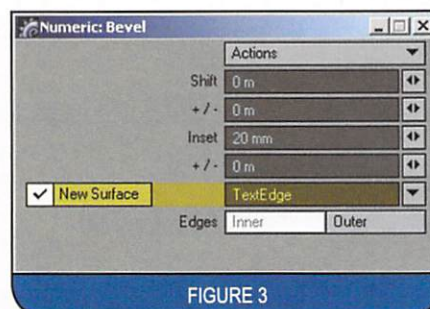

FIGURE 3
- 11) Open the Numeric window (n). Enter a value in the Z "Extent" field. See Figure 3. Close the Numeric window.